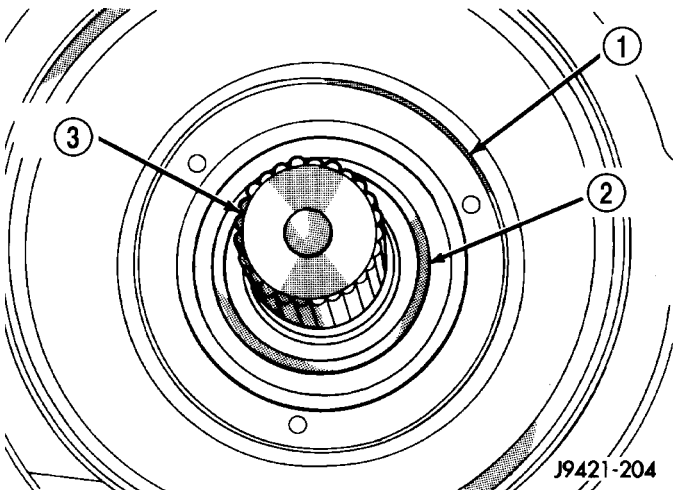

Fig. 103 REAR SEAL
(10) Lubricate lip of new rear seal (Fig. 103) with Mopar Door Ease or transmission fluid.
(11) Install **new** rear seal in adapter housing bore with Installer C-3860-A. Verify seal is seated in housing bore (Fig. 103).